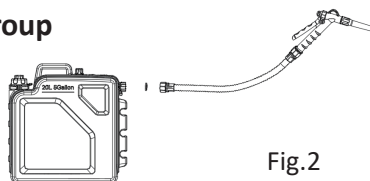

Fig.2
1. Take out the tank station and nozzle group from packaging as shown in Fig.2